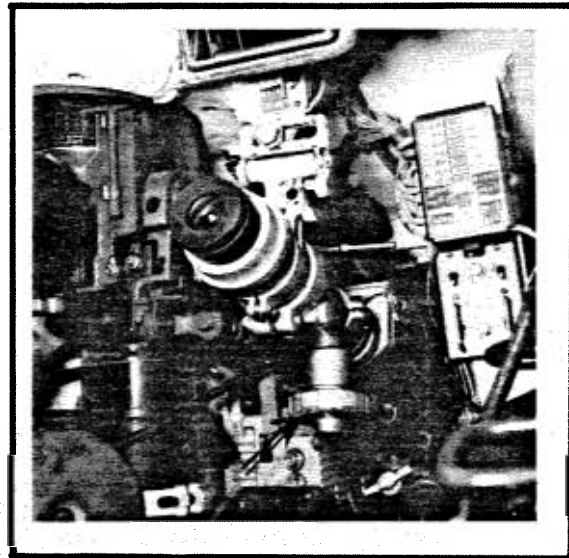
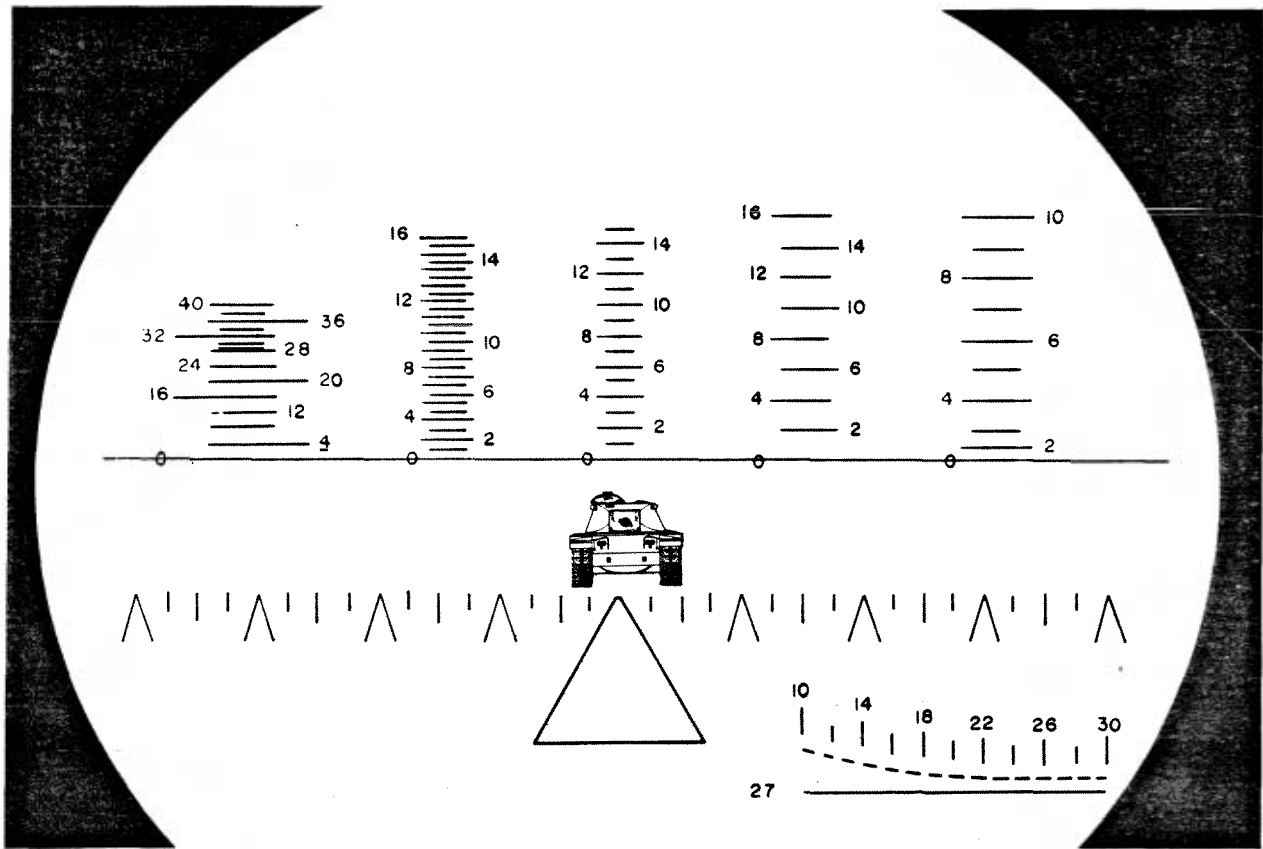

Fig. 3-106. Range Knob
FIG. 3-108. TARGET PICTURE WITH RANGE O's
(5) Select a well-defined object approximately 1600 meters from the tank.
(6) Move the gun tube until the muzzle's cross-hairs are on the upper left corner of the target as seen through the breech well opening.
(7) Looking through the sight, rotate range knob (Fig. 3-106) underneath telescope until the horizontal range line is aligned with the range scale zeros on the ammunition reticles (Fig. 3-108).
The gunner responds "Identified" upon visual acquisition of the target. When the TC reports the range to the target, the gunner rotates the range knob (See Fig. 3-106) on the telescope until the black horizontal range line corresponds to the range scale for the ammunition being fired. This action imparts the superelevation necessary to successfully engage the target. If the main gun is not loaded, the loader loads the round ordered and pushes the loader's safety to the "FIRE" position. This permits the gunner to use his power controls to track the target. For a stationary target, the gunner will move his power controls until the main aiming point is centered on the target. For a moving target, he utilizes his lead lines on the horizontal scale.